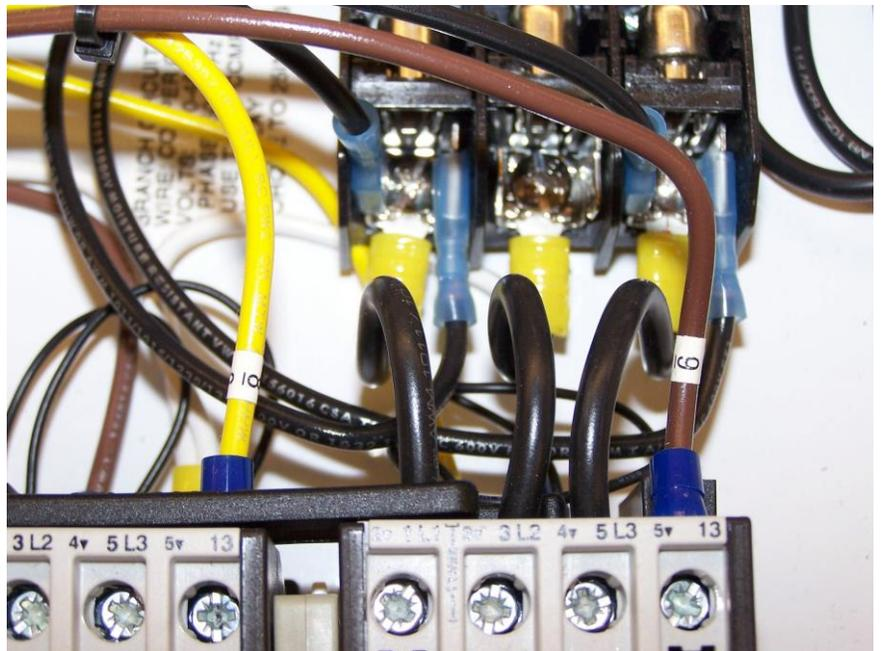

Figure 12
- The Brown wire labeled #9 connects to "FORWARD" contactor terminal "NO" upper position (Figure 12).